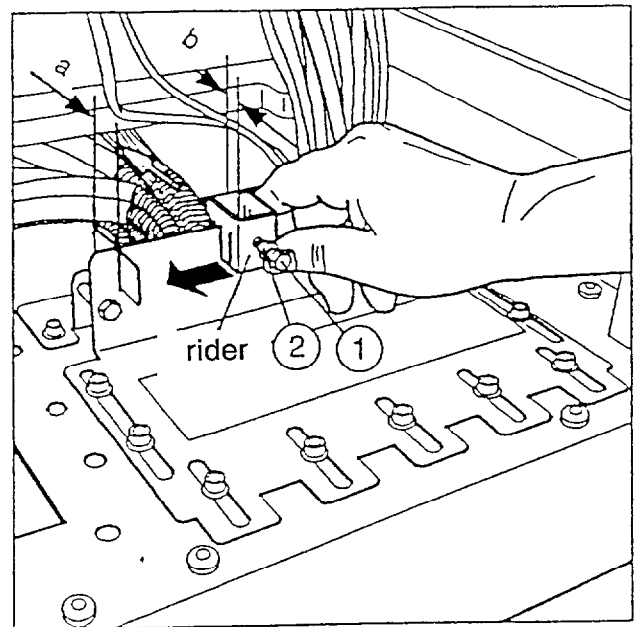

Fig. 4
- Fit the rider so that "b" is approx. 1/3 of "a" (Fig.4).
- Press the rider with your hand against the cables/cable bunches, tighten with the screw connection (1/Fig.4) and lock with nut (2/Fig.4).